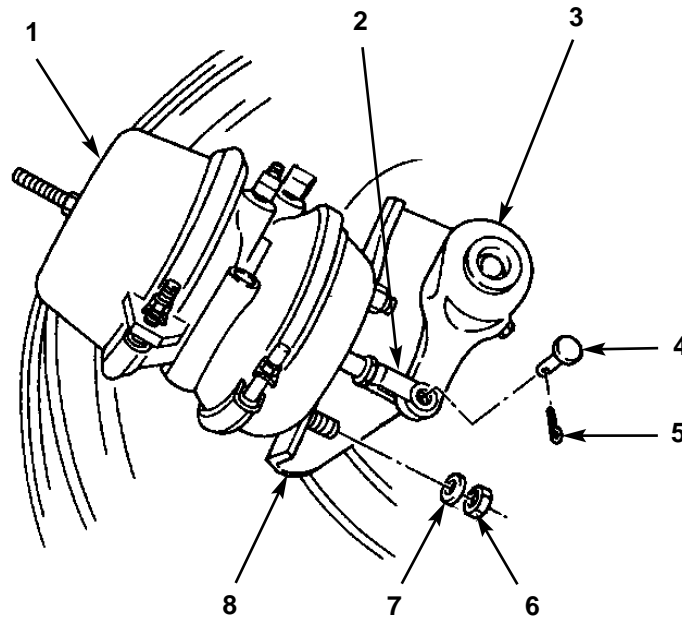

Figure 2. Removing Spring Brake Chamber.
3. Remove cotter pin (figure 2, item 5) from pin (figure 2, item 4) and remove pin (figure 2, item 4) from clevis (figure 2, item 2) and slack adjuster (figure 2, item 3).
4. Remove two locknuts (figure 2, item 6), washers (figure 2, item 7), and spring brake chamber (figure 2, item 1) from camshaft bracket (figure 2, item 8). Discard locknuts (figure 2, item 6).